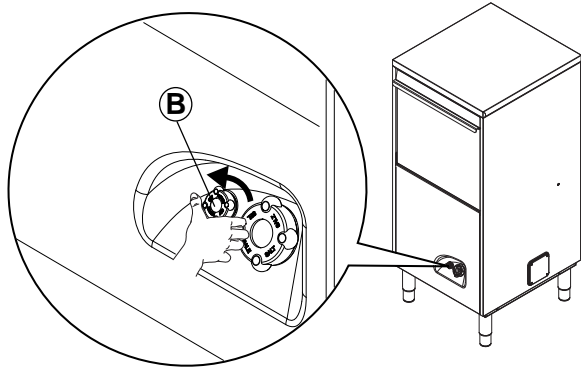

Fig. 25
In models with incorporated continuous water softener, the rinse-aid container is located in the front panel of the appliance (Fig. 25).
- Unscrew cap "B" (Fig. 25) turning it anticlockwise.